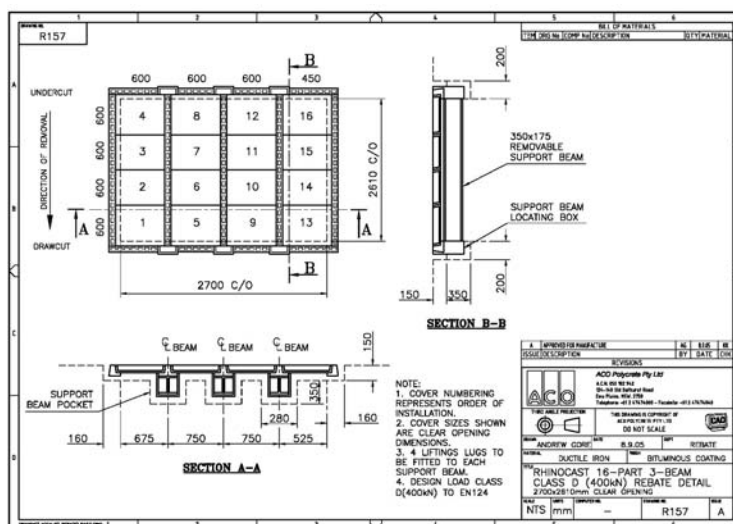

Figure 1 – Multi-part Cover Rebate Detail
1. Using ACO's Multipart Cover Rebate Detail provided (example shown in Figure 1), form the access pit and rebate. Ensure that the pit clear opening, beam pockets and pit wall rebates are consistent with the detail. The numbering system on the drawing represents the position and order of installation of the covers. The frames and beams are numbered to help locate the covers, see Figures 2 & 3.